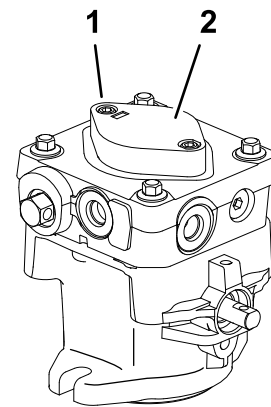

Figure 52
7. To prime the charge pump, loosen two hex socket head capscrews (Figure 52) 1-1/2 turns only. Make sure engine is not running. Lift charge pump housing up from under housing. Retighten capscrews. Do this for both pumps.